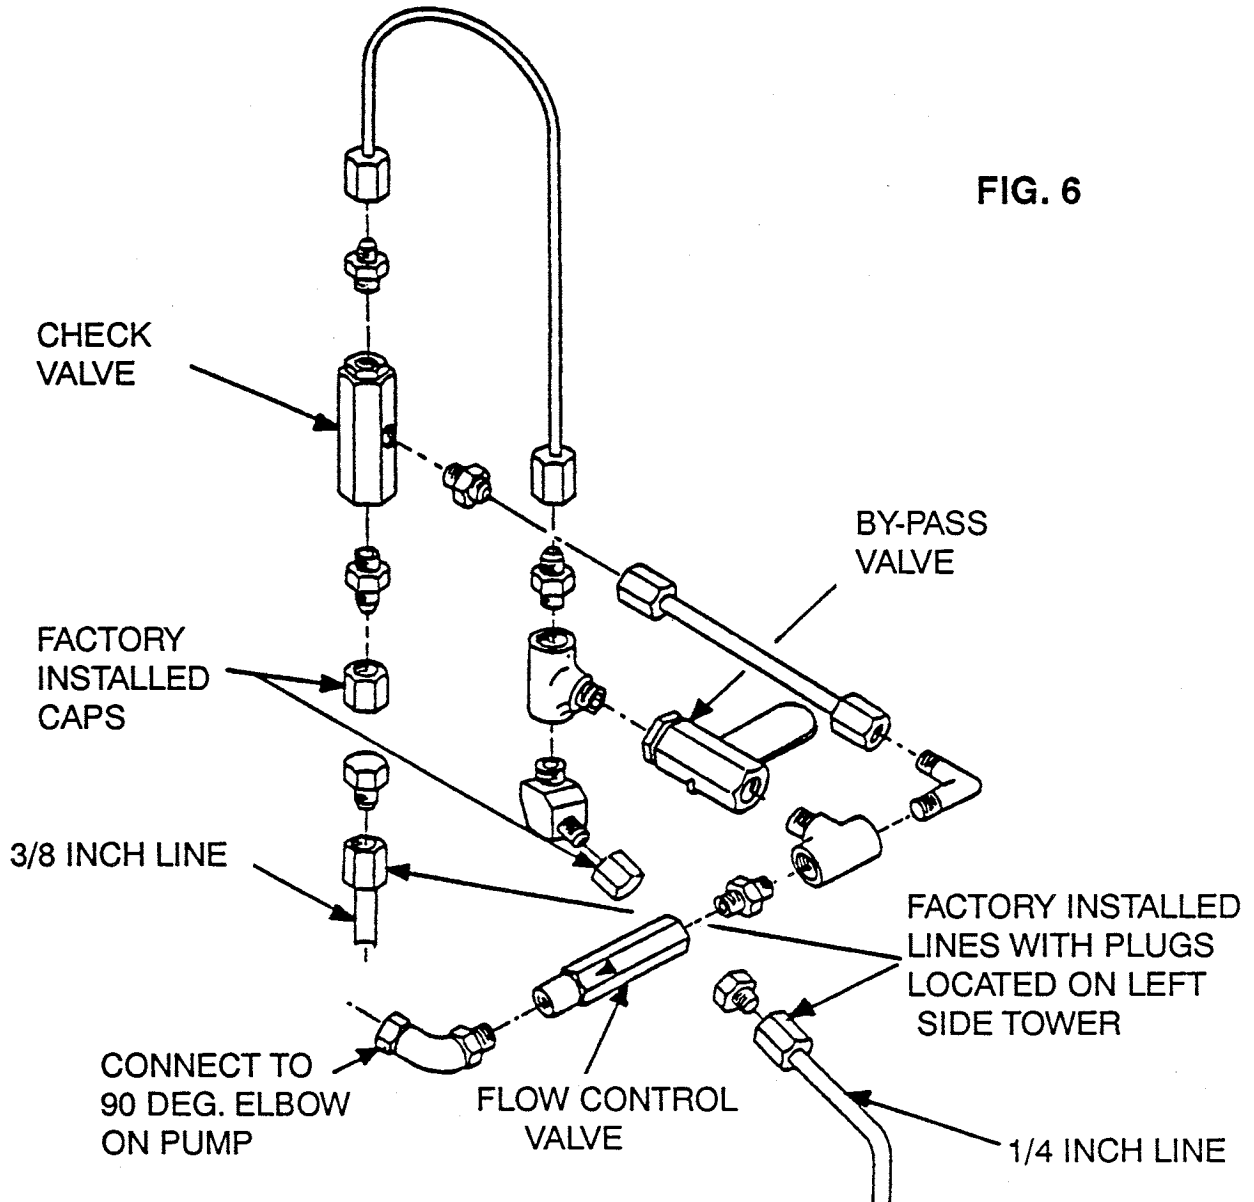

FIG. 6
See Figure 6.
DO NOT REMOVE PLUG FROM THE 3/8" LINE (Fig. 6)
DO NOT REMOVE 3/8" CAP FROM CHECK VALVE (Fig. 6)
2. Remove the PLUG from the 1/4" line. Connect this line to the 1/4" fitting on the Hydraulic Fitting Assembly. (See Fig. 6). **OPEN BY-PASS VALVE** by turning handle "in line" with the valve body.
6. On left side tower, remove PLUG from 3/8" line. Remove CAP from CHECK VALVE. Connect the 3/8" line TO CHECK VALVE (See Figure 6). **BE SURE BY-PASS VALVE IS CLOSED.** Jog motor control lever up to **RAISE HOIST 6 INCHES.** Pull control lever down to LOWER. **REPEAT 6 TIMES!!!**